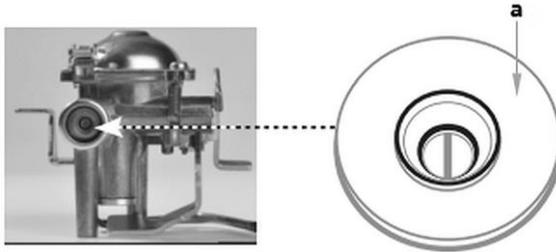

Fig. 2
- Before connecting the gas cartridge, check the gasket (a, Fig. 2). Make sure it is in its place and in good condition.